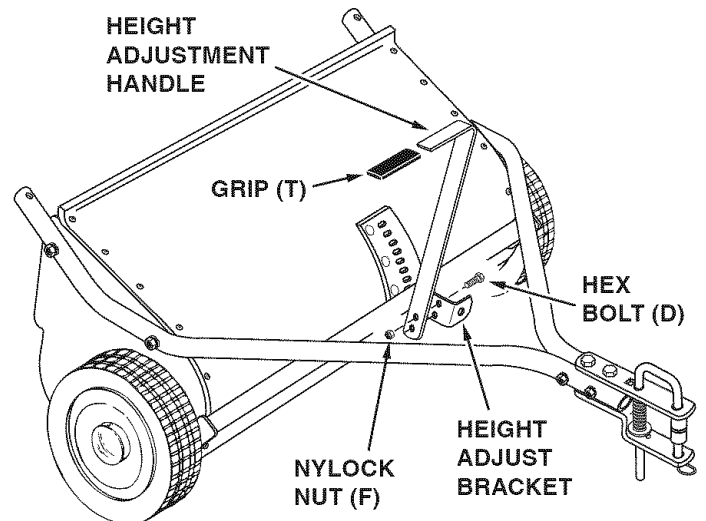

FIGURE 6
- Assemble the height adjustment handle to the height adjust bracket at the front of the sweeper housing. Use two hex bolts (D) and nylock nuts (F) to the bracket. See figure 6.
- Assemble the grip (T) onto the end of the height adjustment handle as shown in figure 6.